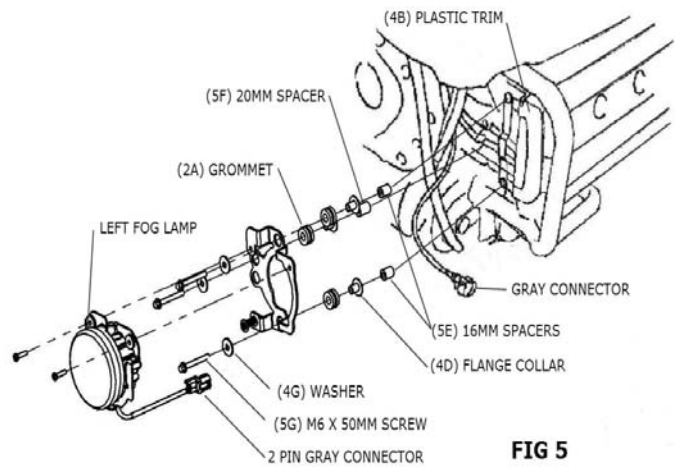

FIG 5
9. USING THE 8MM WRENCH REMOVE THE TWO BOLTS HOLDING THE PLASTIC TRIM PIECE (4B) ON. THESE BOLTS WILL NOT BE REUSED. INSTALL THE LEFT FOG LAMP BY USING THE FLANGE COLLARS (4D), THE TWO 16MM LONG SPACERS (5E), THE 20MM LONG SPACER (5F), THE 50MM LONG FLANGE BOLTS (5G), AND WASHERS (4G). NOTE ALL BOLTS ON THIS SIDE GET A SPACER. THE 20MM LONG SPACER GOES ON THE INSIDE BOLT. PLUG THE 2-PIN CONNECTOR INTO THE MOTORCYCLES 2-PIN GRAY CONNECTOR. REMOVE THE PLUG COVER FIRST. THE MOTORCYCLE CONNECTOR MAY BE TAPED TO THE BIKE. THIS TAPE WILL HAVE TO BE REMOVED TO LENGTHEN WIRES. SEE TO FIGURE 5.